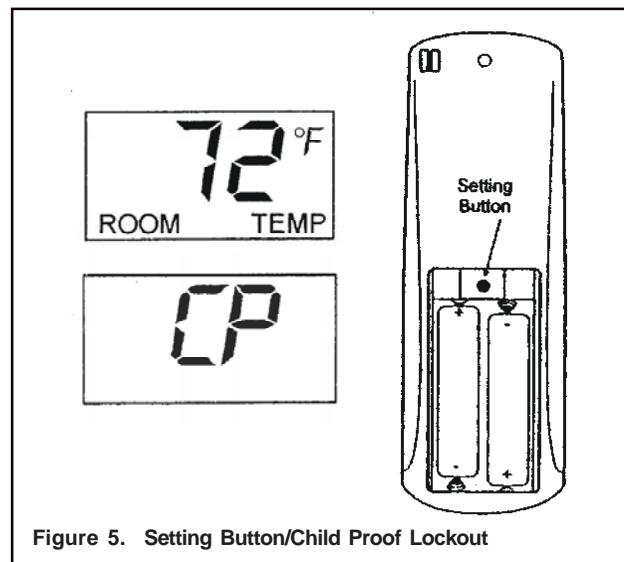

Figure 5. Setting Button/Child Proof Lockout
1. Remove the battery cover on the back of the transmitter and locate the “setting button” at the top center of battery compartment (see Figure 5).